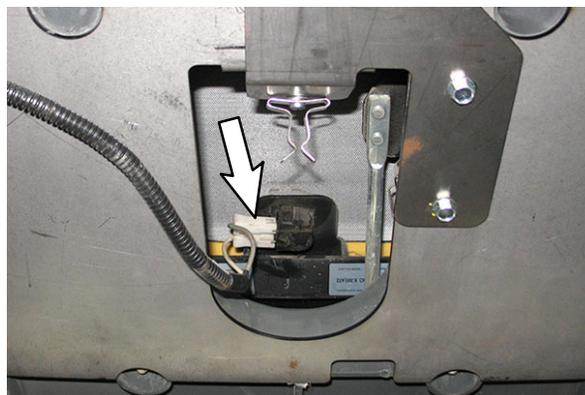

FIG. 1
3. Disconnect the wire harness from the seat switch. (Fig. 1)